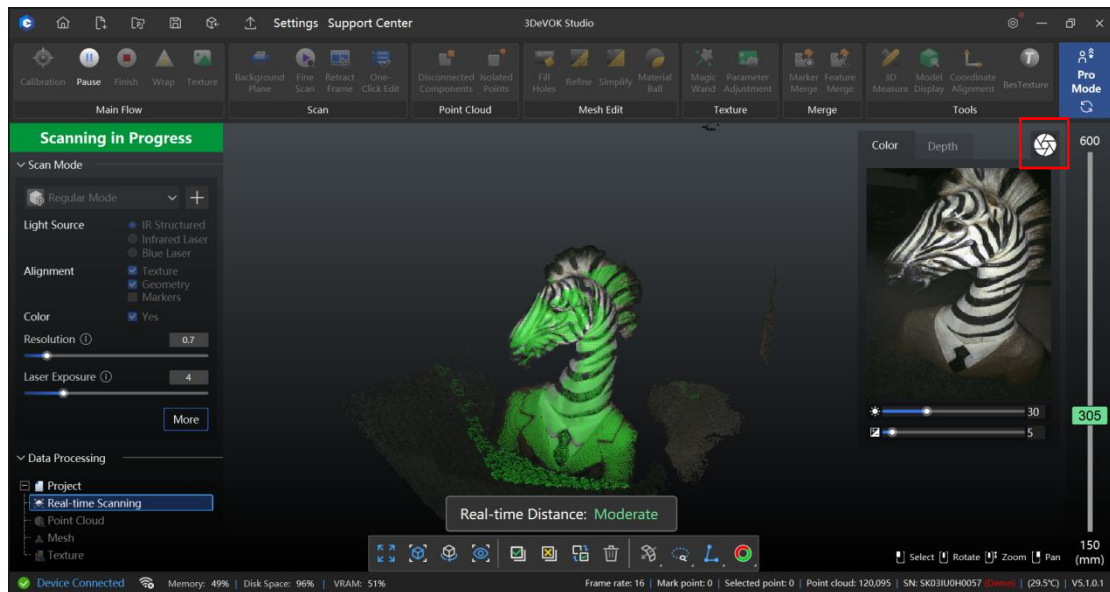

Figure 7-16 Camera Field of View
The camera field of view provides real-time visualization of the scanner's observable area, enabling operators to: (1) verify object position relative to the optimal scanning zone, while simultaneously monitoring (2) laser line intensity, (3) color camera fill light levels, and (4) color camera exposure values for comprehensive process control, which is shown in Figure 7-16.